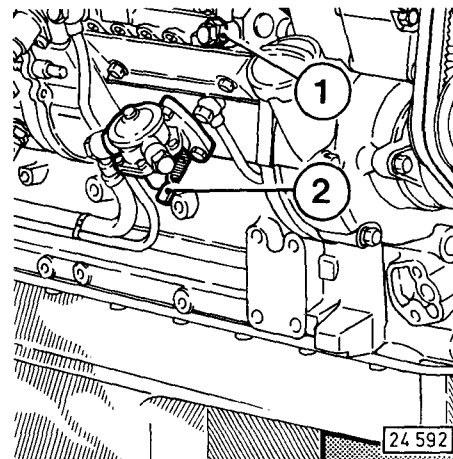

Fig. 12
- undoing the overflow valve 1 (Fig. 12) at the lower (larger) hexagon by 2–3 turns,